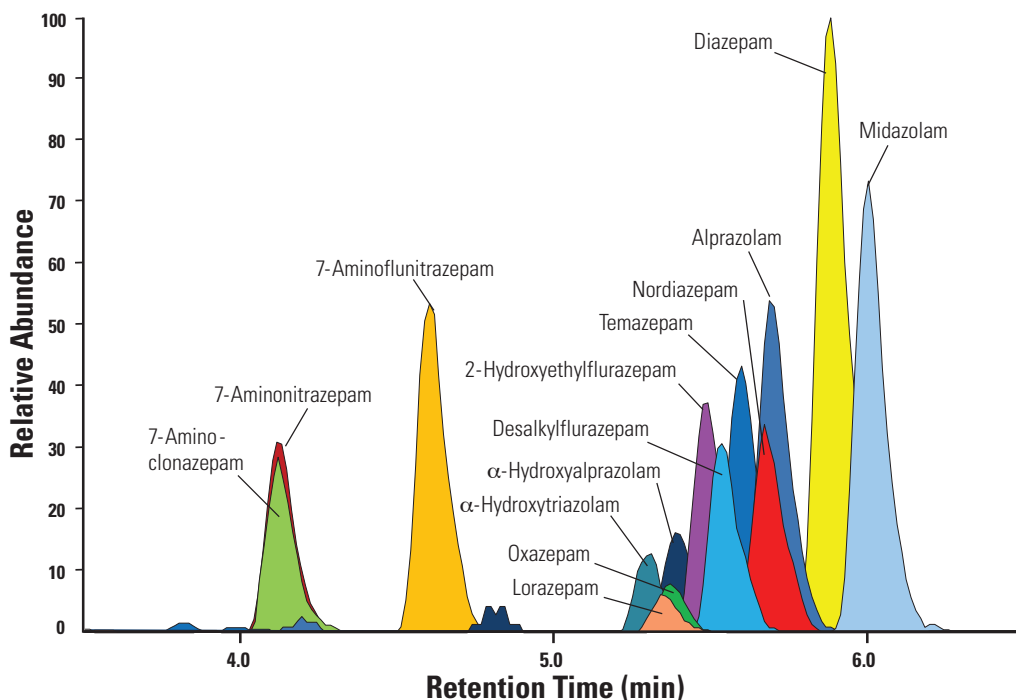

Figure 10. Extracted ion chromatograms of 14 benzodiazepines in urine at their LLOQ (5 ng/mL, mass isolation window=3 ppm)
This method was linear from 5 to 1000 ng/mL for all 14 benzodiazepines with an accuracy of 85.4%-106.0%. Inter- (n=15) and intra-batch (n=5) coefficients of variation (CV) at two different concentration levels ranged from 0.5% to 11.7%. The method has a lower limit of quantitation (LLOQ) of 5 ng/mL for all 14 benzodiazepines tested. The method performance is summarized in Table 1. Figure 10 shows the extracted ion chromatograms (XICs) with 3 ppm mass isolation window of all 14 benzodiazepines at their LLOQ (5 ng/mL).